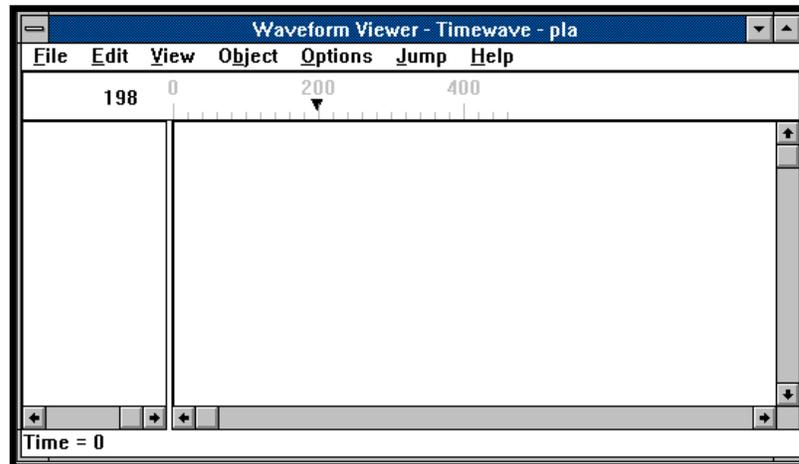

Figure 1-14. The Waveform Viewer
33. With the test vector source (`demo.abv`) highlighted, double-click on Equation Simulation Waveform in the Processes list. Synario simulates the equations and the Waveform Viewer window appears (Figure 1-14).